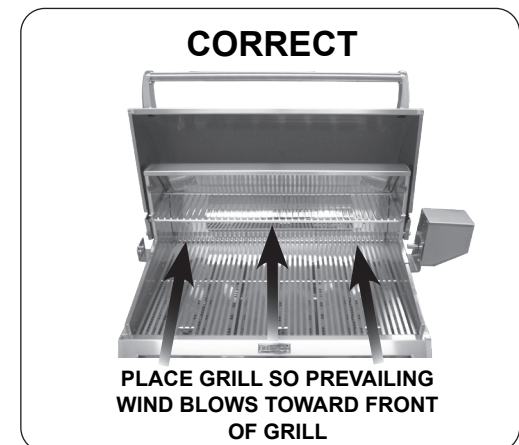

Fig. 14-2 Airflow direction - CORRECT
**CAUTION:** Wind blowing into or across the rear oven lid vent (Fig. 14-3) can cause poor performance and/or dangerous overheating. Orient the grill so that the prevailing wind blows toward the front of the grill (Fig. 14-2). **A wind deflector is available for purchase to assist in proper airflow during windy conditions.** See Table 3 for model numbers. Follow the instructions included with the wind deflector for installation.